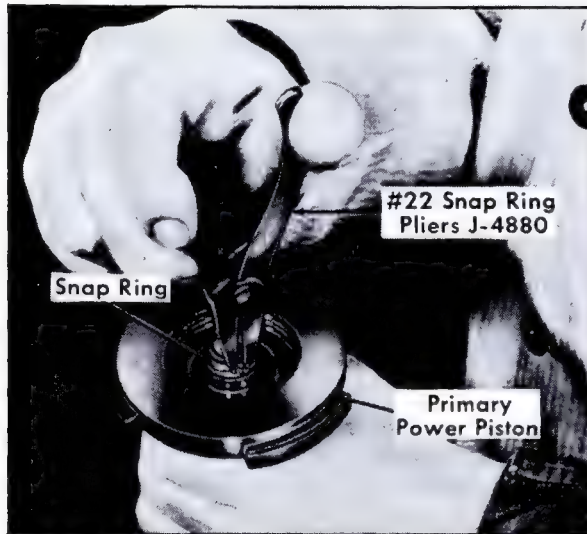

Fig. 5-43 Removing Snap Ring from Air Valve
23. Clamp eyelet end of air valve push rod in side of vise and using Truarc No. 2 pliers (J-4880), remove the snap ring from the air valve, Fig. 5-43.
8. Using Truarc No. 2 pliers (J-4880), place the snap ring into the groove in the air valve, Fig. 5-43.